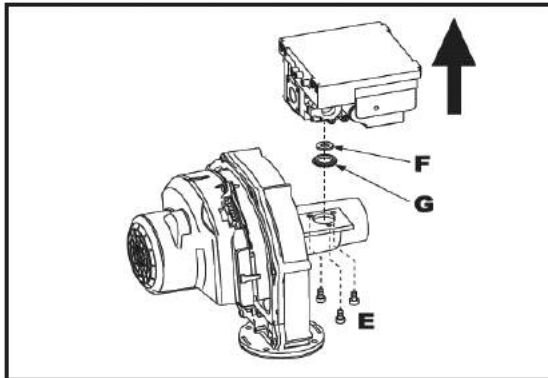
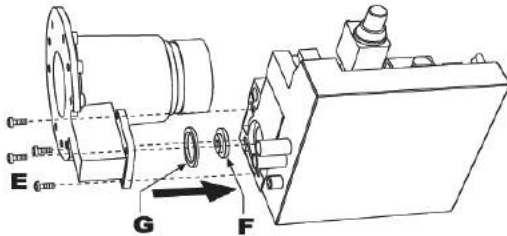

fig. 53 - model FUTURIA power 80 - 160
fig. 54 - model FUTURIA power 125 - 250
7. Undo the g screws "E" Fig 53 model **80 - 160** and Fig 54 FUTURIA power Model (125 - 250) and remove the gas valve.
8. Replace the gas nozzle "F" (see Fig 53 for the model 80 - 160 and Fig 54 the model 125 - 250) with the one contained in the conversion kit, positioning it inside the seal "G". Refit the parts and check their gas leaks.